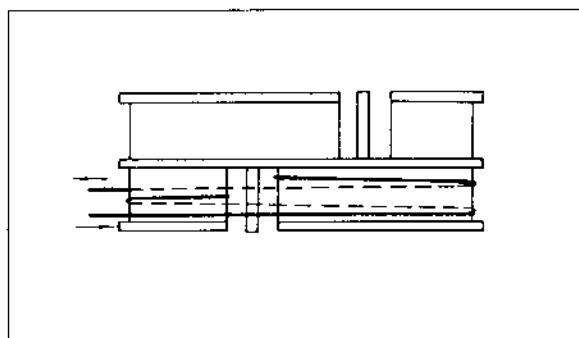

Fig. 2-8. Wrapping the dial cord
2. Run the cord through the slot in the rim of the drum and wrap a clockwise turn in the inner side groove. See Fig. 2-8.
4. Run the cord over pulleys "B", "C" and "D", then wrap one clockwise turn around the drum from outer groove to inner groove as shown in Fig. 2-8.